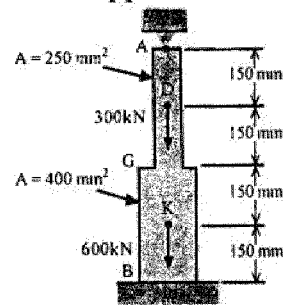

Fig. 1d
- d). Determine the reactions at A and B for the steel bar and loading shown in fig.1d, assuming a close fit at both supports before the loads are applied.